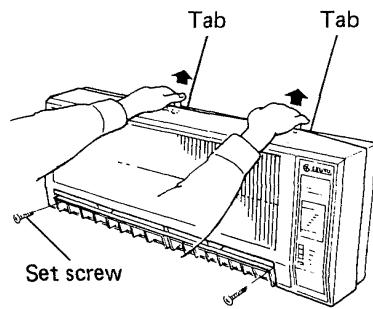

Fig. D-1
- 1) Remove the two (2)* set screws holding the casing to the indoor unit with a Phillips screwdriver. (SAP91KC and SAP92KCH)
*SAP121KC, SAP122KCH, SAP181KC and SAP182KCH have three (3) screws.
- 2) Pull up the casing by hand, press down on tabs on top, then withdraw the casing by pulling it back straight. Fig. D-1.